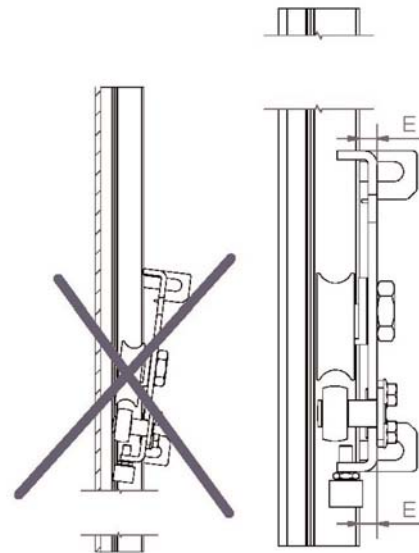

Fig. 18
Wing adjustment can be made distinctly on three axes based on installation requirements (Fig.18).
Before tightening bolts A, carefully check that the carriage wheel vertical surface (that coincides with the carriage vertical surface) is parallel to the box (Fig.18).
- Check alignment measuring the quotas E (**Fig.18**) on the right and left sides of the carriage: they must be equal.